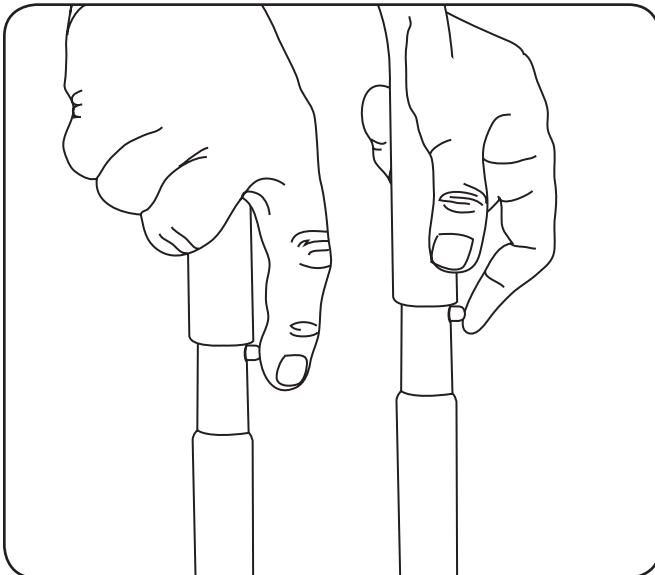

Figure 3-1
1. Place handle onto frame, depress the snap buttons, and slide the handle assembly onto the frame until snap buttons snap into place. See Figure 3-1.